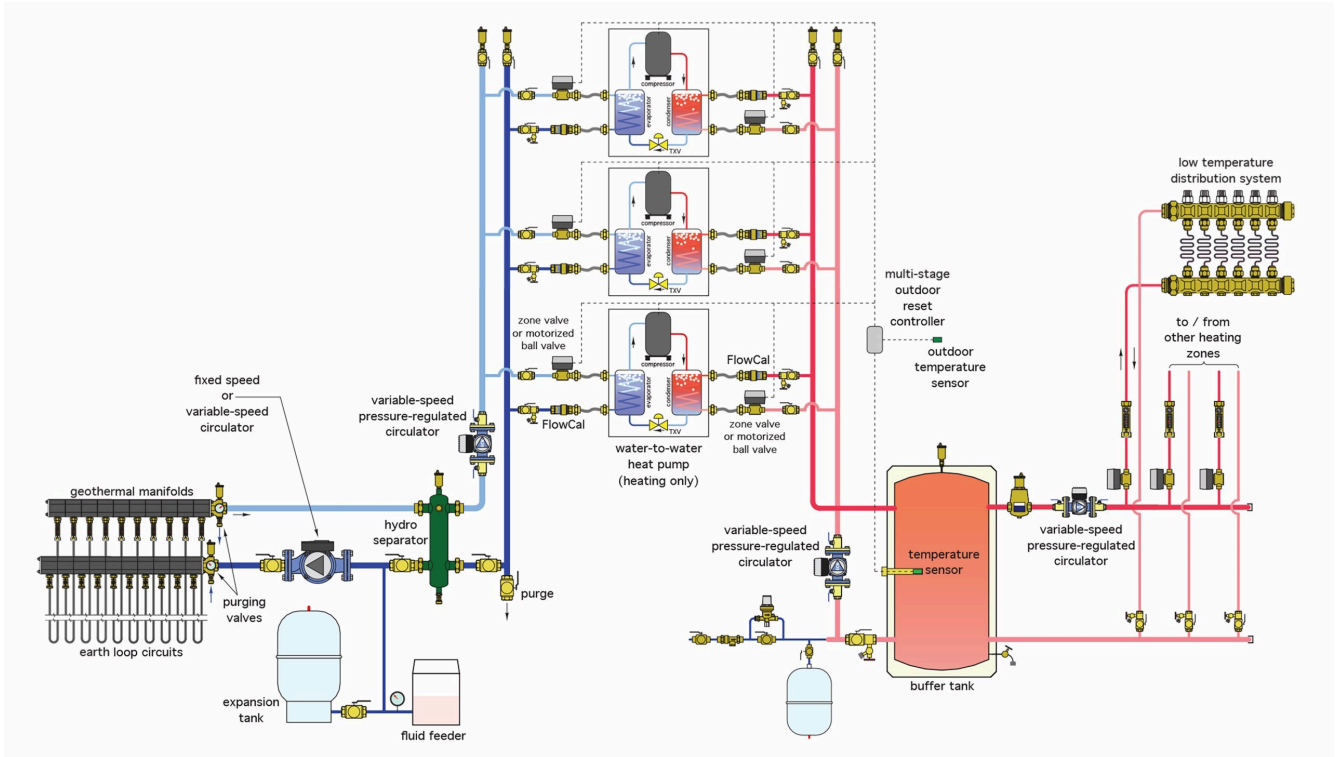

Figure 17 Multiple heat pumps supplying a multi-zone heating-only radiant system
Figure 17 below shows an example of multiple heat pumps being used to supply heating-only to a radiant floor system with multiple zones. An outdoor reset control will operate to cycle the heat pumps on and off as needed to maintain the required temperature in the buffer tank.
- Figure 17 Multiple heat pumps supplying a multi-zone heating-only radiant system © Caleffi Hydronic Solutions. Used with permission.